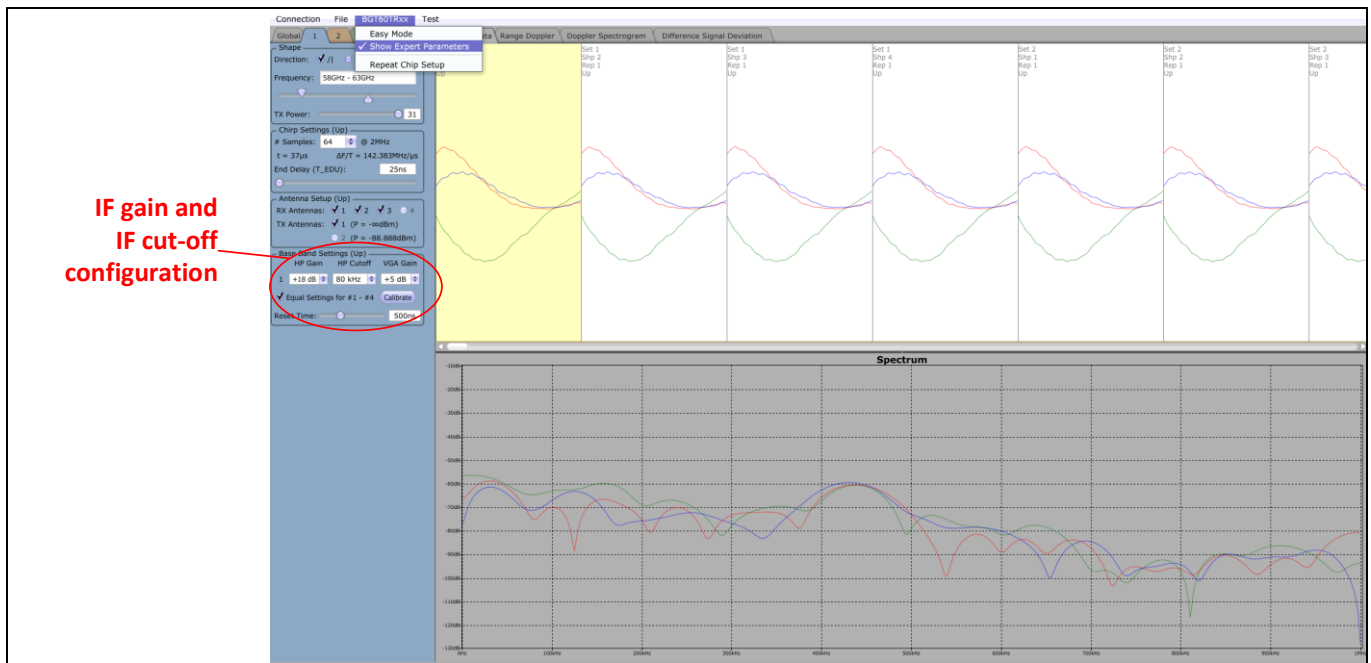
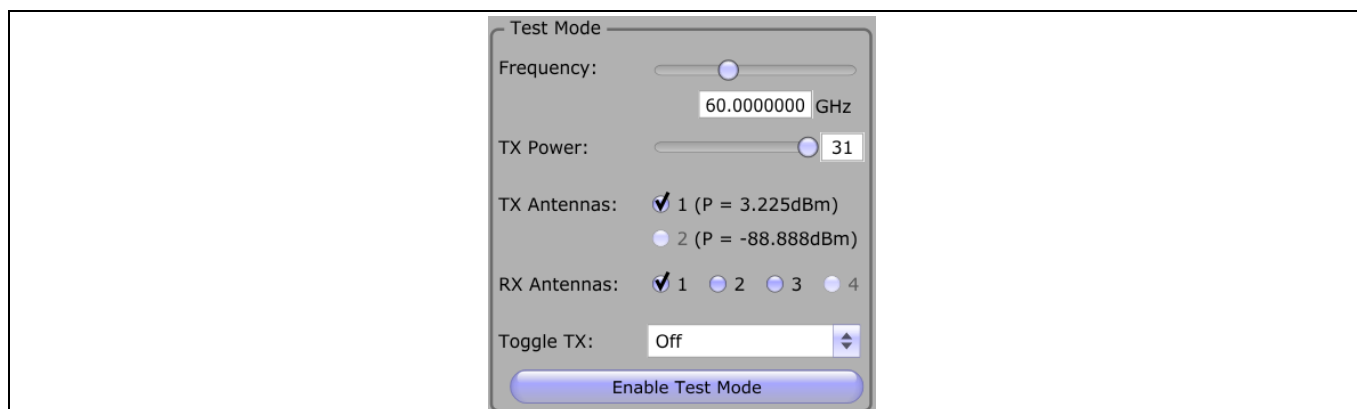

Figure 11 Shape configuration in expert mode
Figure 15 Test mode configuration
To switch to the expert mode of Sensing GUI, you must select "BGT60TRx" in the menu bar and activate "Show Expert Parameters", as shown in Figure 11. In this new view, it is possible to adjust the intermediate frequency (IF) gain and the IF cut-off frequency for each direction of a shape. The high-pass cut-off frequency can be configured between 20 kHz and 80 kHz. The IF amplification is done in two stages. For better noise performance, it is recommended to increase the noise of the first stage (HP gain) before fine-tuning the gain with the second stage (VGA gain). After bandwidth, TX-power, number of samples and antenna configuration have been chosen, adjust the gain of this configuration. Therefore, activate the "Data" tab and adjust the IF settings such that the signals of all antennas are maximized without clipping. Figure 11 shows an example, where shape 1 is optimized. Shape 2 has too-low amplification, and shape 3 has clipping because of the excess amplification.
To put the radar sensor in CW mode operation, you must switch to expert mode by selecting “BGT60TRXx” in the menu bar and activate “Show Expert Parameters”, as shown in Figure 11. At the bottom of this view, you can find the “test mode” for CW mode operation, shown in Figure 15. There, you can set the exact frequency to emit the TX-power, TX-antennas and the RX-antennas for signal acquisition. By clicking “Enable Test Mode”, the chip will run in CW mode with the chosen configuration.